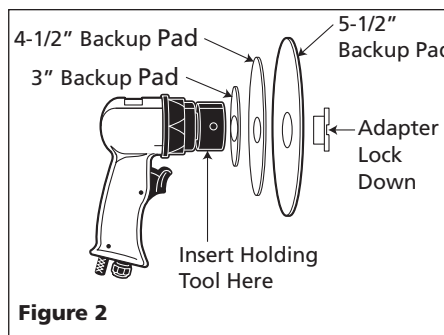

Figure 2
3" or 6" resin discs with non-adhesive backs are recommended. The discs should have 7/8" diameter cutout centers for proper attachment. For best support when using discs larger than 3", use all the backup pads of equal size or smaller than the resin disc itself (See Fig. 2). To install the resin disc, follow the outlined procedures.
1. Assemble the backup pads as shown in Figure 2. Make sure the recessed center of the pads face the sander.
3. Hand tighten the adapter lockdown, then insert the holding tool into the hole shown in Figure 2. Insert a large screwdriver into the slotted hole on the adapter lock down and securely tighten.